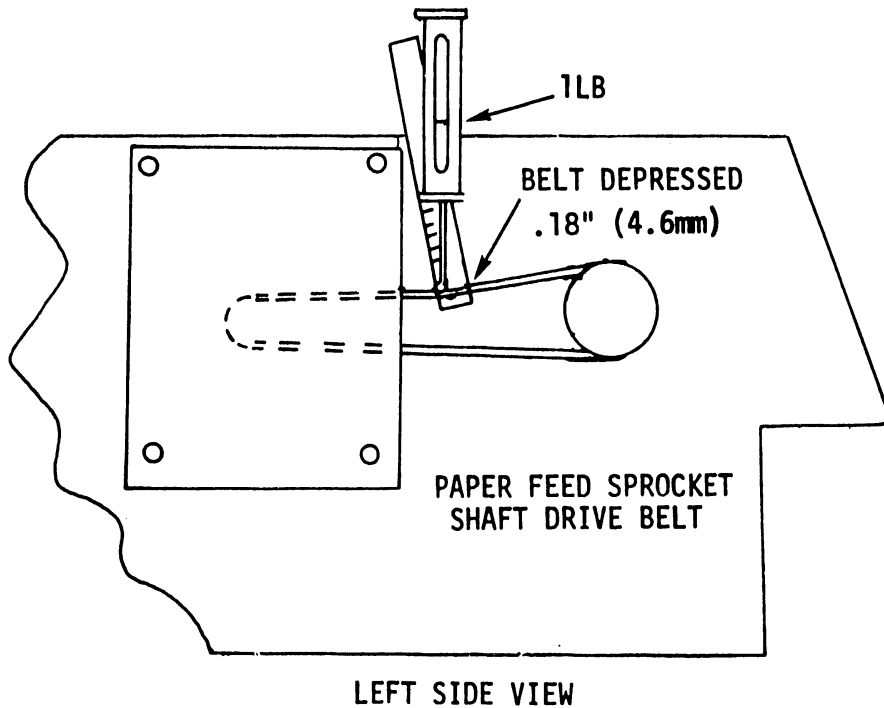

FIGURE 5-27 PAPER SPROCKET DRIVE BELT
- 1) Paper sprocket drive belt (front) with the belt depressed .18" (.45 cm), the scale should read 1 lb. (See Figure 5-27.)